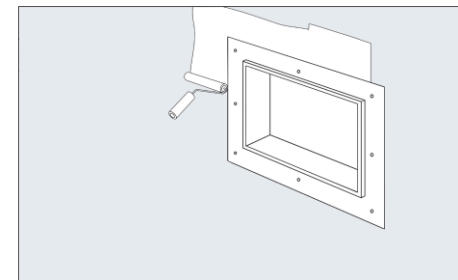

Fig. 3.
STEP 4: Apply primer onto wallboard around outside perimeter of EasyNiche (to approx 75mm.) and then apply primer to EasyNiche Surface(Fig 3).